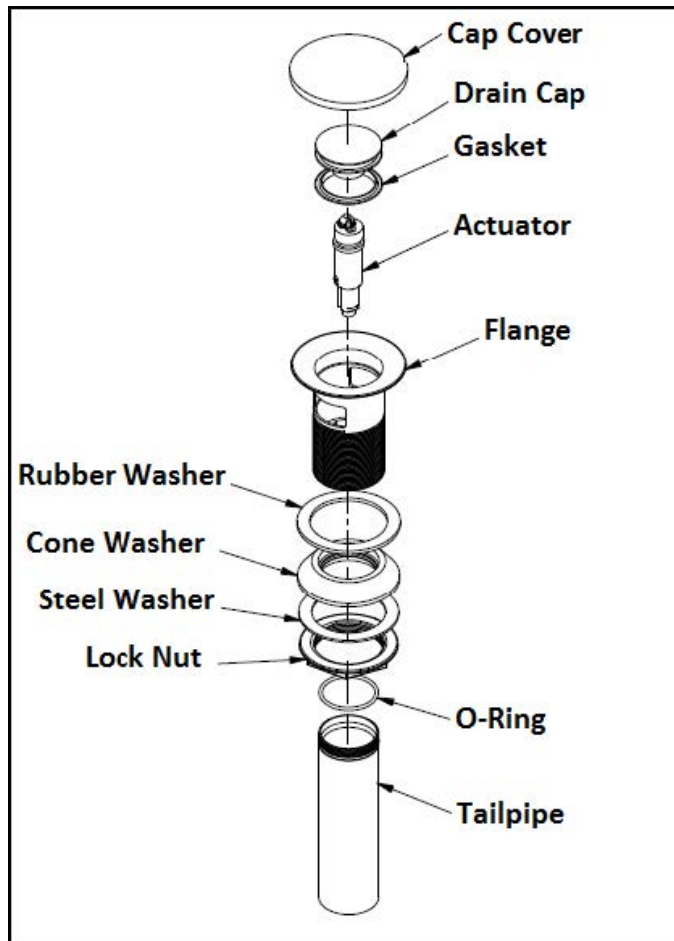
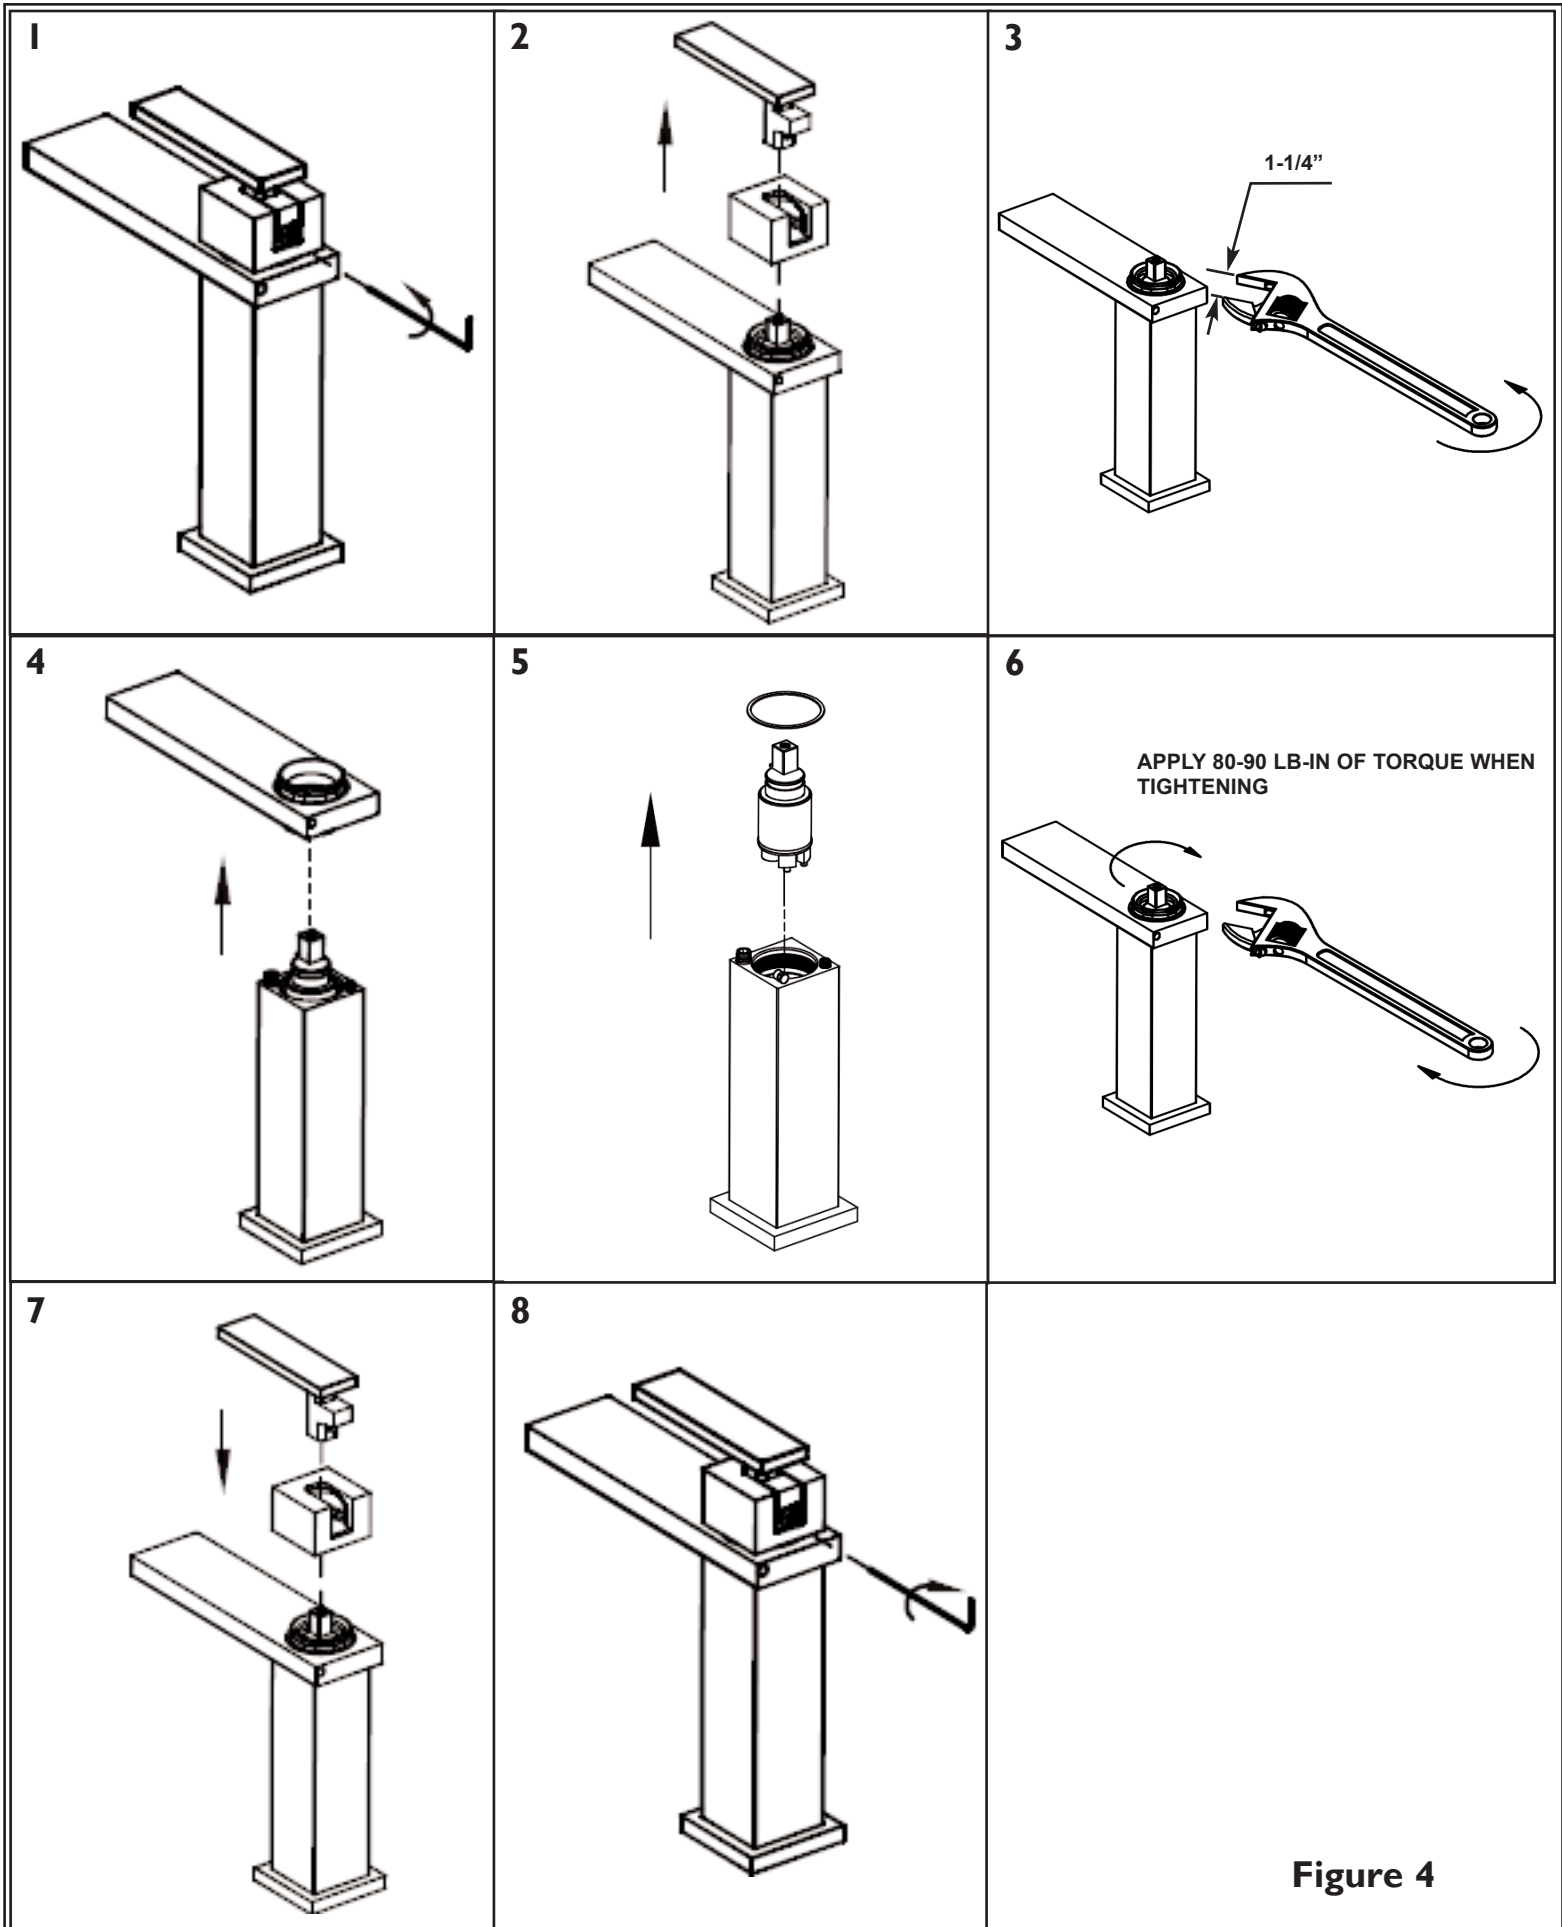

Figure 3
Figure 4
3. Remove FLANGE, RUBBER WASHER, STEEL WASHER, and discard drain CAP COVER from drain assembly. Place RUBBER WASHER into FLANGE. Then, place FLANGE through the sink hole (Clear silicone may be used in place of RUBBER WASHER). From underside of sink, install CONE WASHER, STEEL WASHER, and LOCK NUT into FLANGE. Thread LOCK NUT firmly. Thread TAILPIPE to FLANGE assembly and assemble TAILPIPE to existing P-Trap. **See Figure 3.**
4. Remove FLOW RESTRICTOR (13) from spout. Turn on water supply, and flush system until water is clear. Check for leaks and make any final adjustments required. Re-attach FLOW RESTRICTOR (13) to the spout.
5. Cartridge replacement - **See Figure 4.**